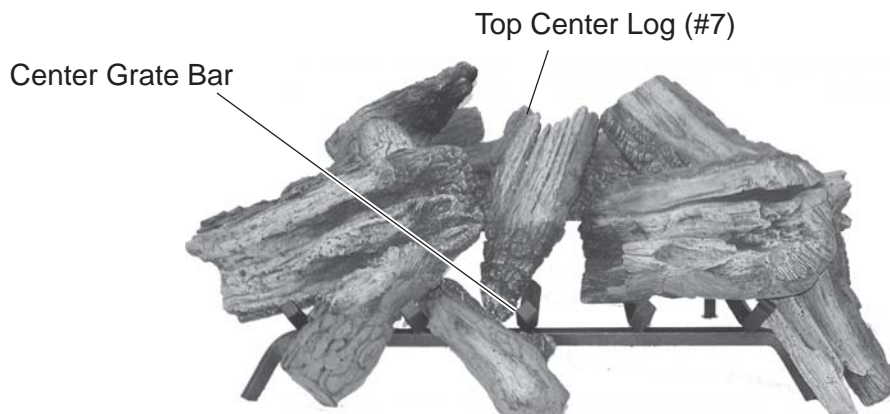

Figure 136 - Placing Top Center Log (#7) on Rear Log
8. Place wide end of Top Center Log #7 on Rear Log #1. Rest narrow end of Top Center Log #7 to the left of center grate bar barely touching the Mid Log #6. *See Figure 136.*